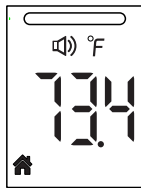

Figure 5
1. Press the *Test Button* to turn on the thermometer, then press *MODE Button* to switch to room mode, the thermometer will automatically measure the room temperature and display the result.(see figure 5).